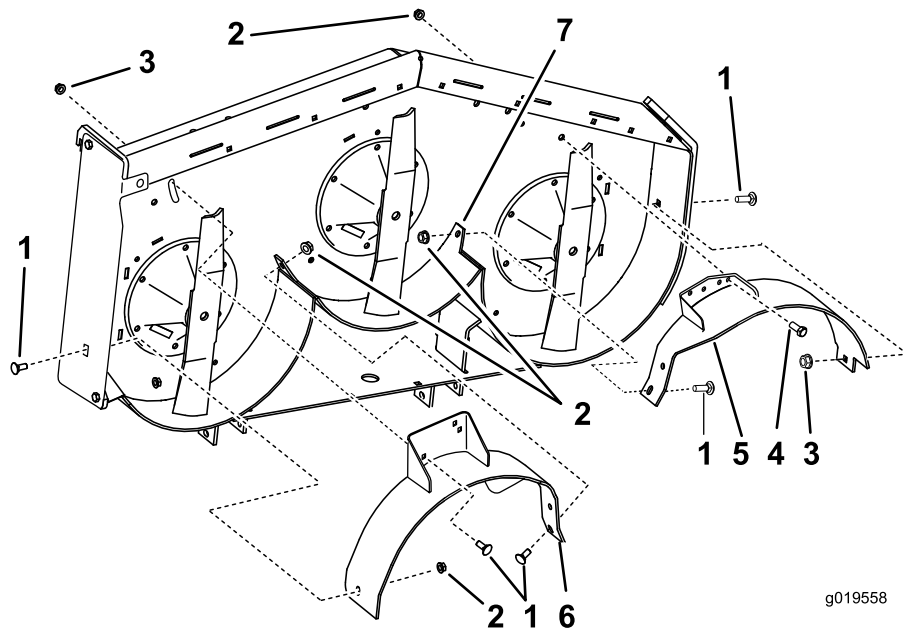
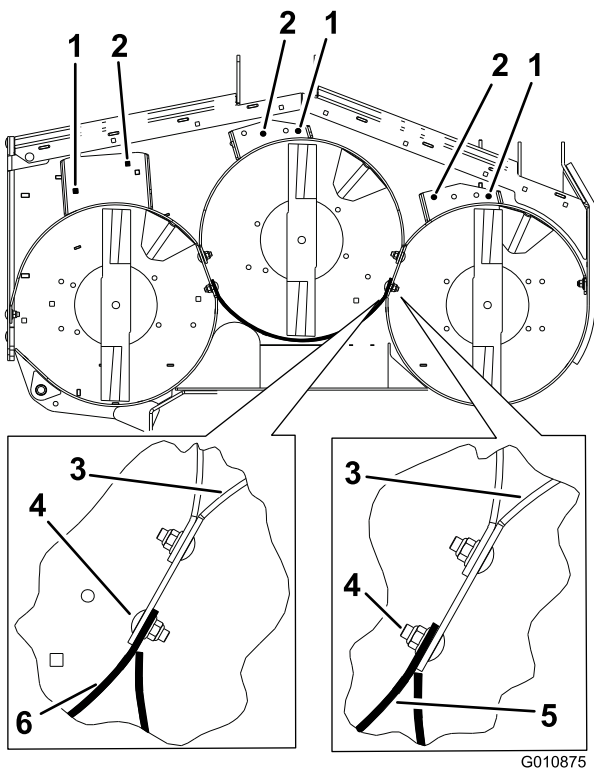
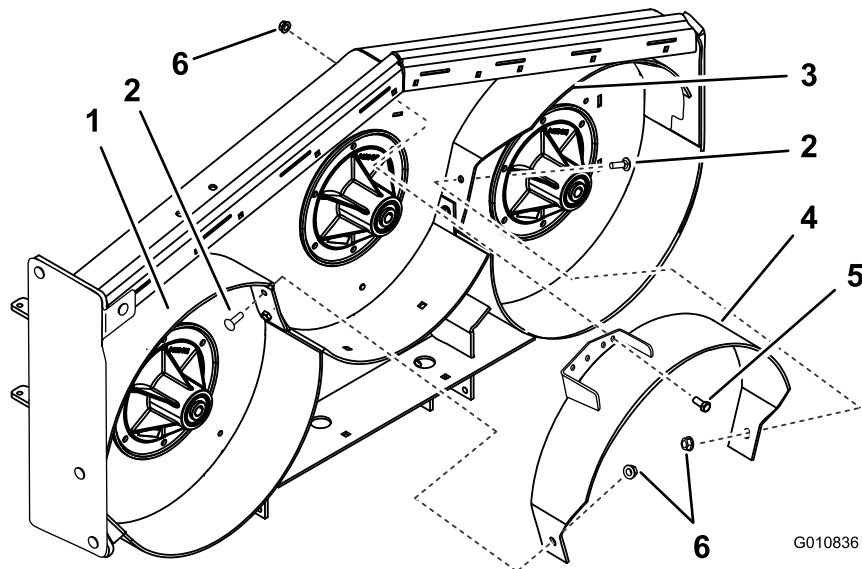

Figure 9
Figure 10
Figure 11
Note: Loosely install the baffles to align the baffles with all holes in the mower (Figure 9).
2. Loosely install the right baffle to the discharge plate with 1 carriage bolt (3/8 x 1 inch) and a flange nut (small flange) (3/8 inch) (Figure 9).
3. Loosely install the right baffle to the top of the mower deck with 1 carriage bolt (3/8 x 1 inch) and 1 flange nut (large flange), (3/8 inch) (Figure 9). Refer to Figure 10 for the correct holes to use and the position of the baffles.
4. Loosely install the right baffle to the mower deck with 1 carriage bolt (3/8 x 1 inch) and 1 flange nut (small flange) (3/8 inch) (Figure 9).
6. Loosely install the left baffle to the top of the mower deck with 1 bolt (3/8 x 1 inch) and 1 flange nut (small flange) (3/8 inch) (Figure 9). Refer to Figure 10 for the correct holes to use and the position of the baffles.
7. Loosely install the left baffle to the mower deck with 1 carriage bolt (3/8 x 1 inch) and 1 flange nut (small flange) (3/8 inch) (Figure 9).
8. Loosely install the left baffle to the side of the mower deck with 1 carriage bolt (3/8 x 1 inch) and 1 flange nut (large flange) (3/8 inch) (Figure 9).
10. Loosely install the center baffle to the left baffle with 1 carriage bolt (3/8 x 1 inch) and 1 flange nut (small flange) (3/8 inch) (Figure 11). Refer to Figure 10 for the correct holes to use and the position of the baffles.
11. Loosely install the center baffle to the right baffle with 1 carriage bolt (3/8 x 1 inch) and 1 flange nut (small flange) (3/8 inch) (Figure 11).
12. Loosely install the center baffle to the top of the mower deck with 1 bolt (3/8 x 1 inch) and 1 flange nut (small flange) (3/8 inch) (Figure 11).